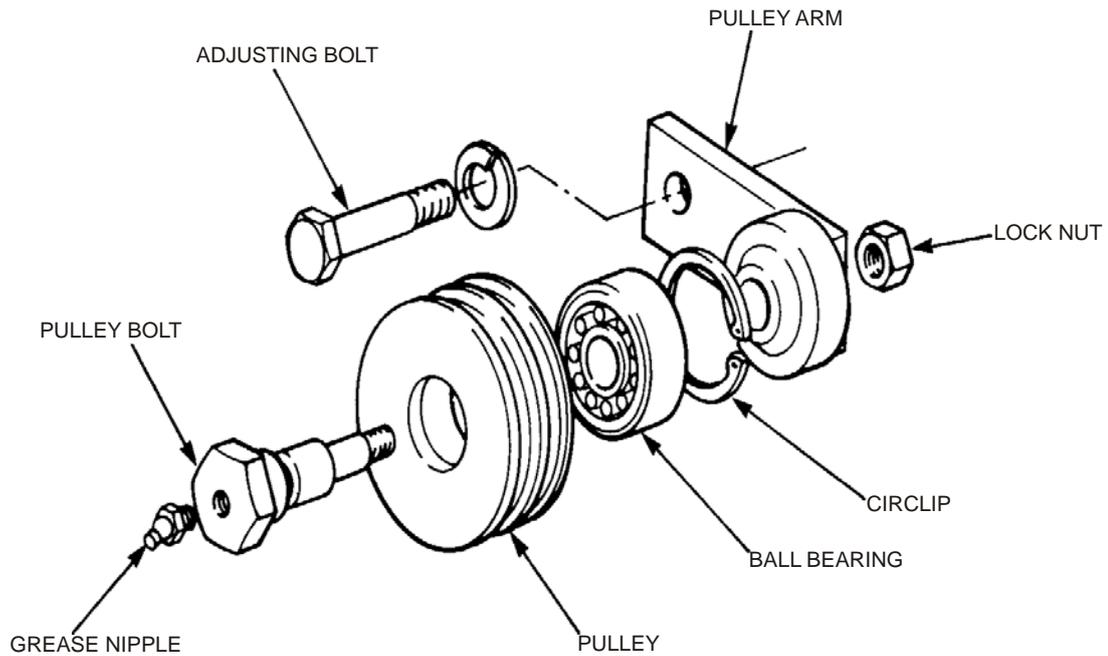

Figure 2 Jockey Pulley - Exploded View
- a. Slacken the adjusting bolt on the jockey pulley arm (Figure 2), then rotate the pulley away from the fanbelts.
- c. Slacken the adjusting bolt on the jockey pulley arm (Figure 2), then rotate the pulley away from the fanbelts. Detach the two belts from the alternator pulley.